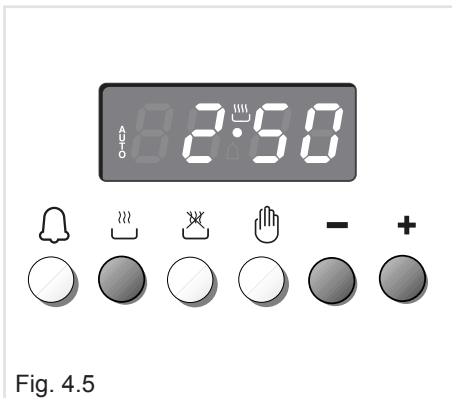

Fig. 4.5
1. Set the length of the cooking time by pushing the button and the $+$ button to advance, or $-$ to go back if you have passed the desired time (fig. 4.5).